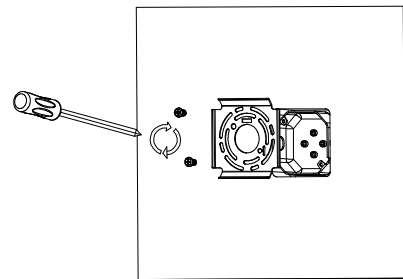

Fig. 3
3. Take apart the mounting bracket from the fixture. (Fig. 3)